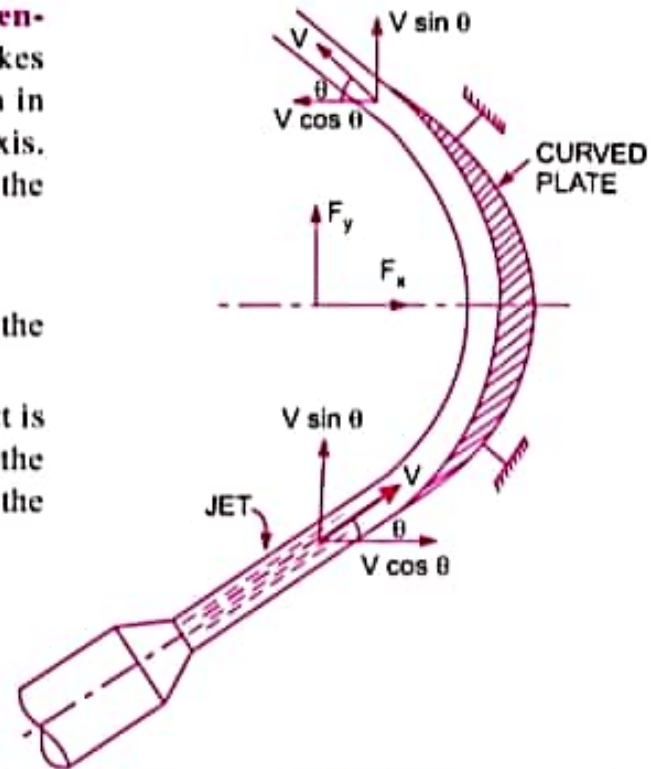

Fig. 17.4 Jet striking curved fixed plate at one end.
-ve sign means that force is acting in the downward direction. In this case the angle of deflection of the jet $= (180^\circ - \theta)$...[17.6 (A)]
(B) Jet strikes the curved plate at one end tangentially when the plate is symmetrical. Let the jet strikes the curved fixed plate at one end tangentially as shown in Fig. 17.4. Let the curved plate is symmetrical about x-axis. Then the angle made by the tangents at the two ends of the plate will be same.